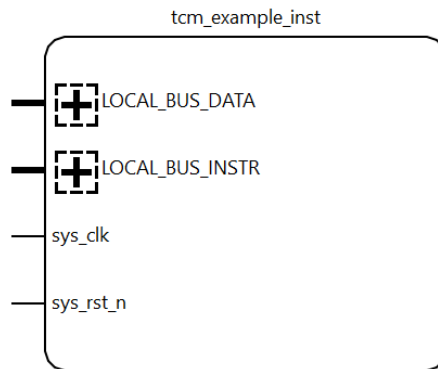

Figure 3.5. Generating TCM IP Instance
6. The TCM IP instance is successfully generated, as shown in (Figure 3.5).